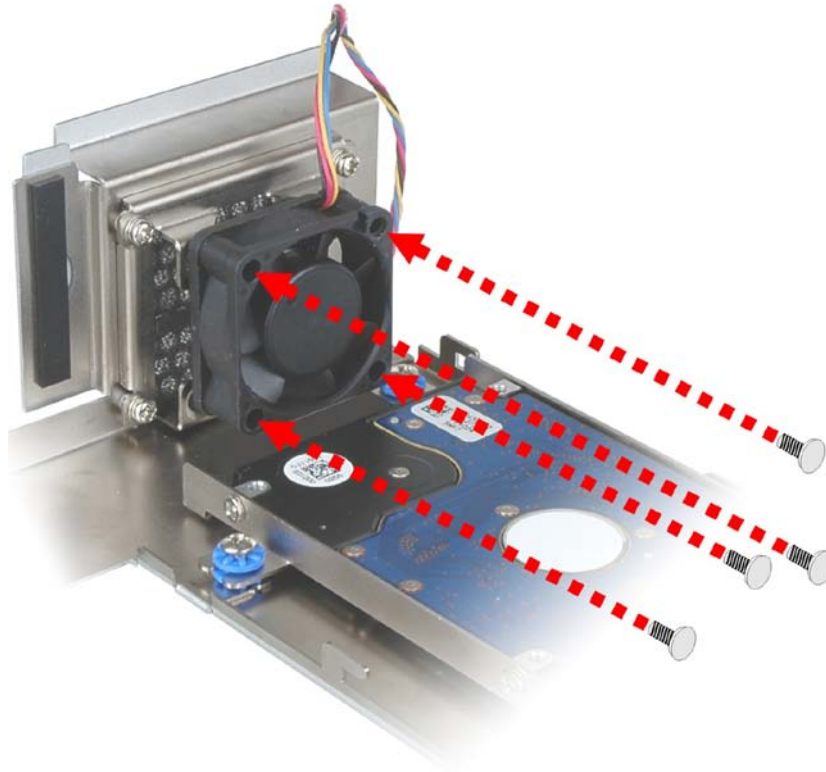

Figure 3-8: System Fan Installation
Step 3: Attach the system fan to the TANK-820 and secure it by four retention screws (**Figure 3-8**).